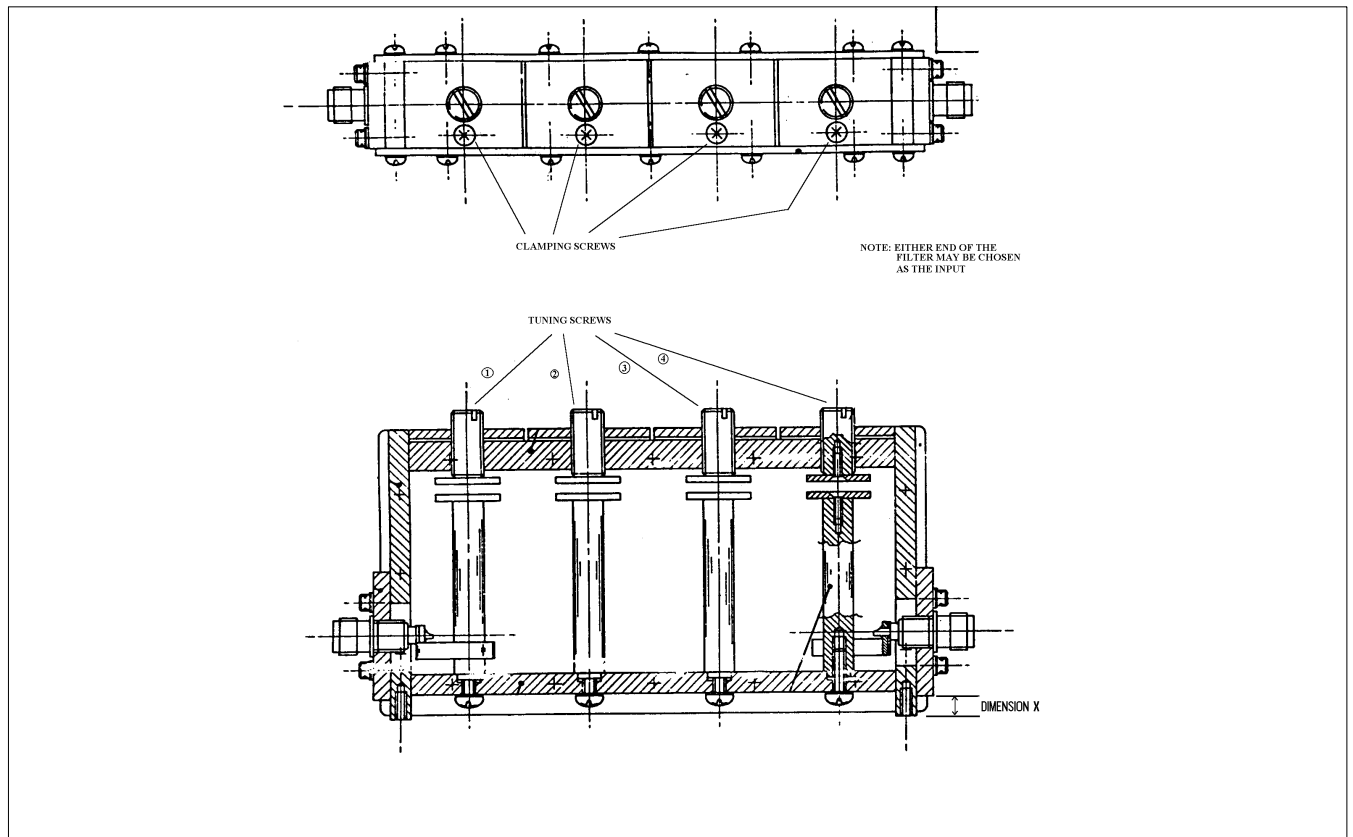

Figure 2-41 Filter Assembly Details
Refer to Figure 2-41. Both filters are similar in construction, although they differ slightly in overall size. They are built in fabricated rectangular boxes and have four tuned resonant rods, tuned by means of tuning screws which capacitively load the open ends of the rods. The input and output couplings are made via spring contacts which slide along the two outer rods and which are attached to female TNC coaxial connectors on the ends of the box. By varying the position of the connector the coupling is adjusted.
Dimension "X" is measured from the bottom of the end plate to the bottom of the socket assembly as shown on Figure 2-41.
- c. Referring again to Figure 2-41, it can be seen that associated with each tuning screw there is a clamping